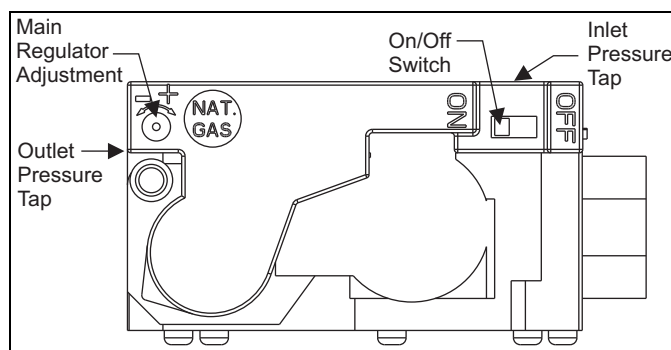

FIGURE 30: Gas Valve
Inlet and manifold gas pressure may be measured by connecting the "U" tube manometer to the gas valve with a piece of tubing. Follow the appropriate section in the instructions below. Refer to Figure 30 for a drawing of the locations of the pressure ports on the gas valve.
4. Refer to Figure 30 for location of pressure regulator adjustment cap and adjustment screws on main gas valve.